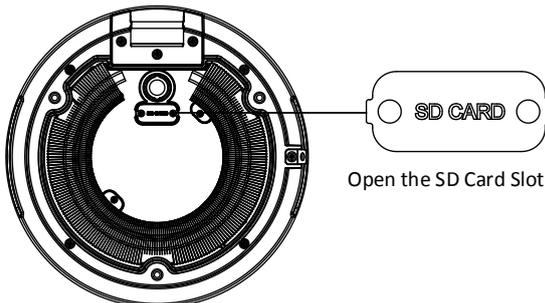

Figure 1-24 Open the micro SD Card Slot
- 1) Loosen two screws and take apart the cover to release the micro SD card slot, as shown in Figure 1-24.